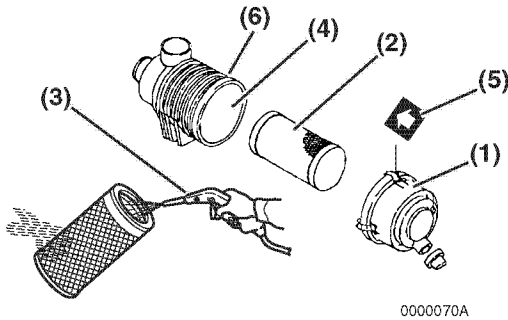
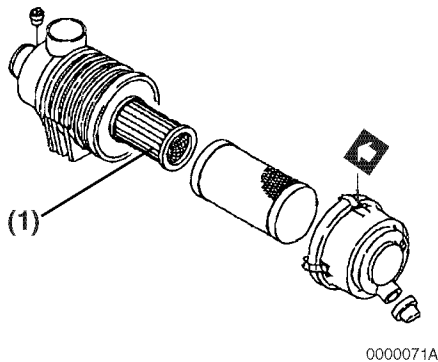

Figure 13
Figure 14
Note that a typical air cleaner is shown in **Figure 13** and **Figure 14** for illustrative purposes only.
1. Unlatch and remove the air cleaner cover (**Figure 13, (1)**).
2. Remove the element (**Figure 13, (2)**) (outer element if equipped with two elements).
3. Blow air (**Figure 13, (3)**) through the element from the inside out using 42-71 psi (0.29-0.49 MPa, 3.0-5.0 kgf/cm²) compressed air to remove the particulates. Use the lowest possible air pressure to remove the dust without damaging the element.
4. If the air cleaner is equipped with a double element, *only remove and replace the inner element (**Figure 14, (1)**) if the engine lacks power or the dust indicator actuates (if equipped).*
7. Reinstall the element into the air cleaner case (**Figure 13, (4)**).
8. Reinstall the air cleaner cover making sure you match the arrow (**Figure 13, (5)**) on the cover with the arrow on the case (**Figure 13, (6)**).
Replace the air cleaner element (**Figure 13, (2)**) every 500 hours even if it is not damaged or dirty.
When replacing the element, clean the inside of the air cleaner case (**Figure 13, (4)**).
If the air cleaner is equipped with a double element, *only remove and replace the inner element (Figure 14, (1)) if the engine lacks power or the dust indicator actuates (if equipped)*. This is in addition to replacing the outer element.